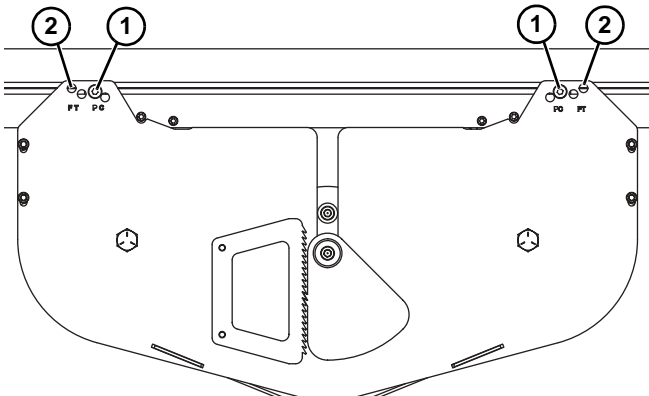

Figure 64
- For standard belt use these holes (**Figure 64, item 1**).
- For friction insert belt use these holes (**Figure 64, item 2**).